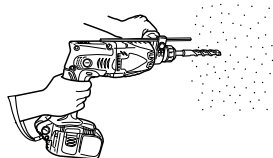

Fig. 19
- (1) Mount the drill bit.
- (2) Pull the trigger switch after applying the drill bit tip to the drilling position. (Fig. 19)
When the drill bit touches construction iron bar, the bit will stop immediately and the rotary hammer will react to revolve. Therefore please grip the side handle and handle tightly as shown in Fig. 19.
When installing the carbon brush, choose the direction so that the nail of the carbon brush agrees with the contact portion outside the brush tube. Then push it in with a finger as illustrated in Fig. 19. Lastly, install the brush cap.